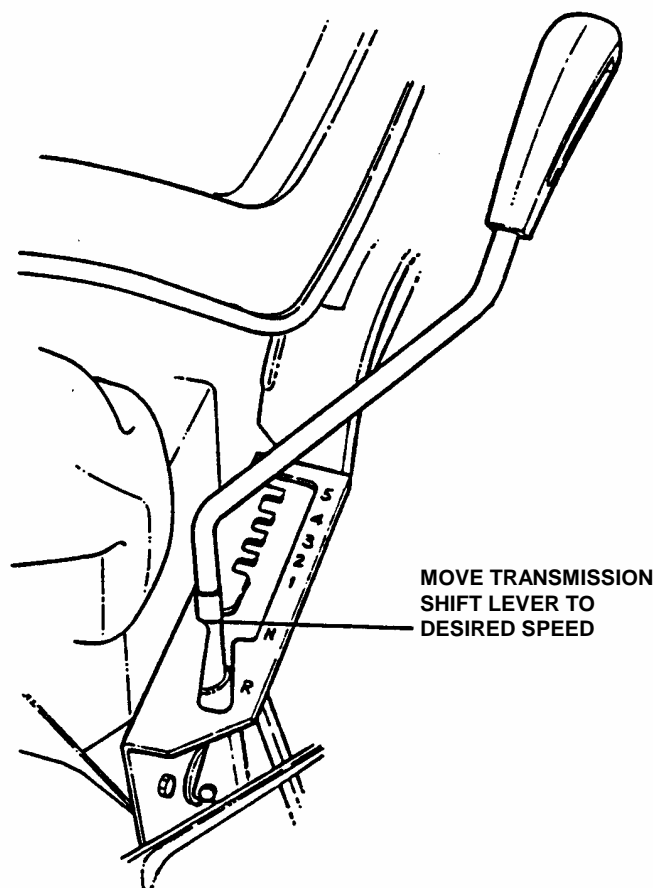

FIGURE 2.12
3. Place transmission shift lever in the notch for 1st speed. See Figure 2.12.